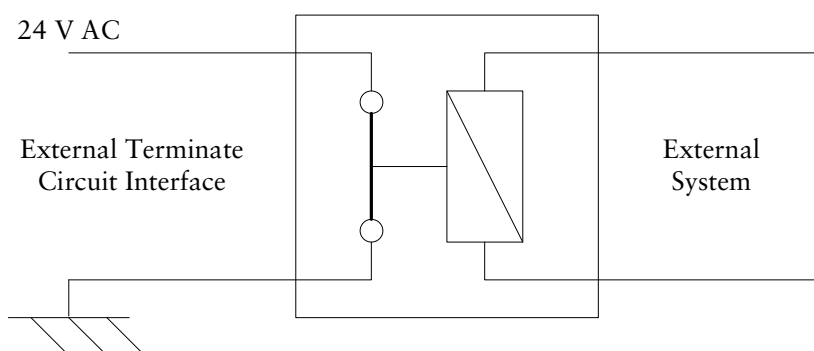

Figure 2.6 External terminate interlock
- 1 An open connection causes termination during irradiation or interrupted states and inhibits the transition from **Preparatory** to **Ready to Start** state at all other times (see Figure 2.6).